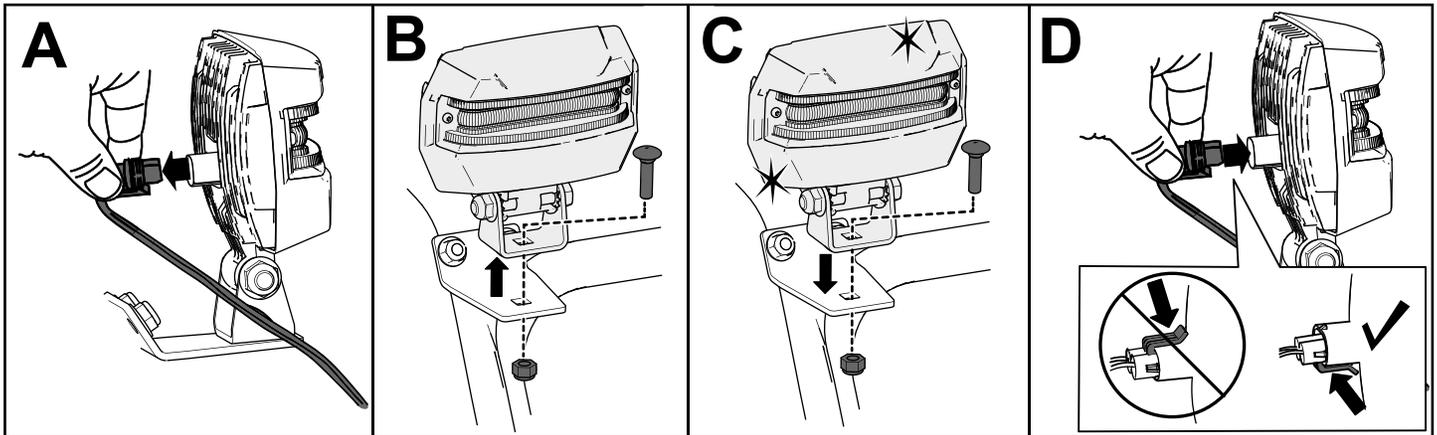

Figure 42
1. Remove the headlight wire from the back of the headlight (A of Figure 42).
2. Remove the bolt and nut holding the headlight assembly onto the headlight bracket and then remove the old headlight assembly (B of Figure 42).
3. Secure the new headlight assembly onto the headlight bracket with the previously removed nut and bolt (C of Figure 42).
4. Insert the headlight wire straight into the back of the headlight until it is securely in place (D of Figure 42).